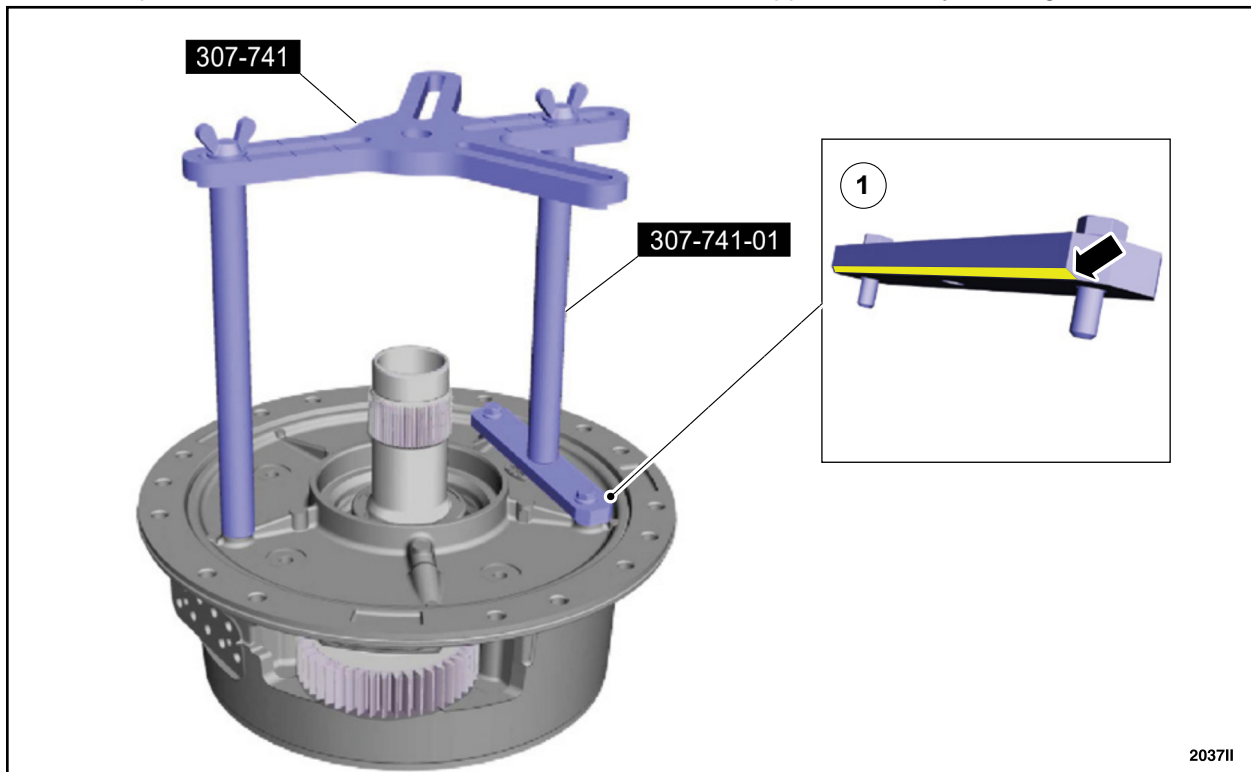

FIGURE 26
29. Install special tools 307-741 and 307-741-01 onto the front support assembly. See Figure 26.